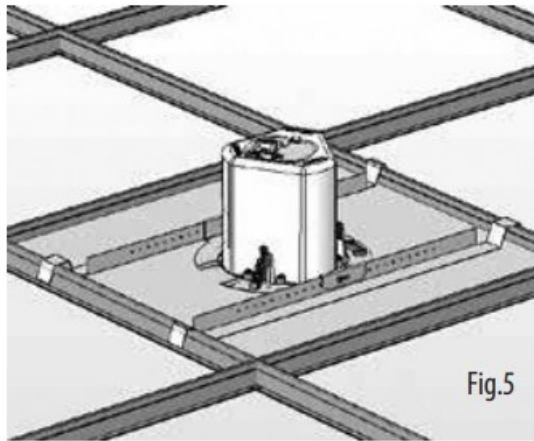

Fig.5
4. Slide the tile panel back into the suspended ceiling. The tile bridge ends will catch over the railings, supporting the weight of the speaker. (Fig.5)